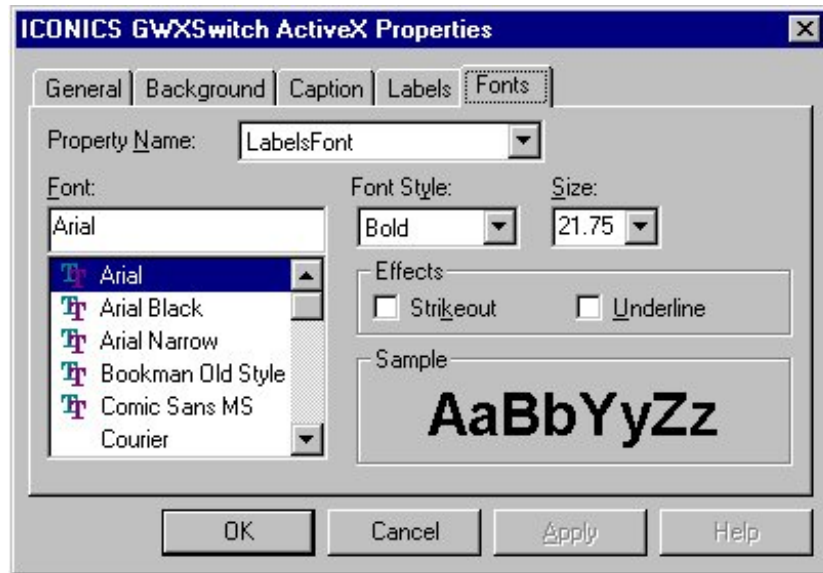

Figure 16-8: GWXSwitch ActiveX Properties Dialog Box: Fonts Tab
2. Select the Fonts tab (Figure 16-8).